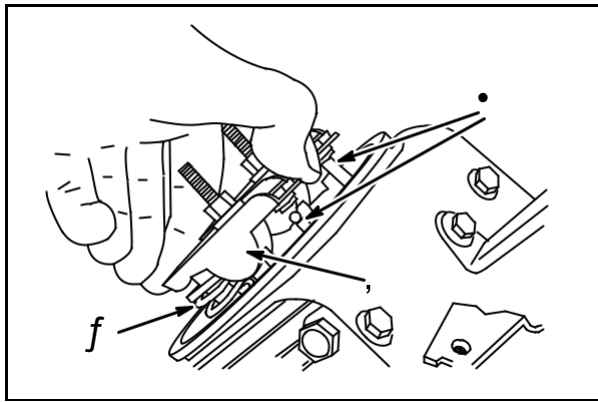

Fig. 13
Compress valve spring (3) with rocker arm (2) and insert push rod (1) into rocker arm socket, **Fig. 13**.